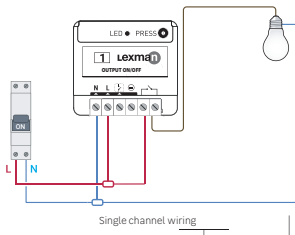

Figure 2
3. Wire the ON/OFF receiver according to the diagram (figure 2).